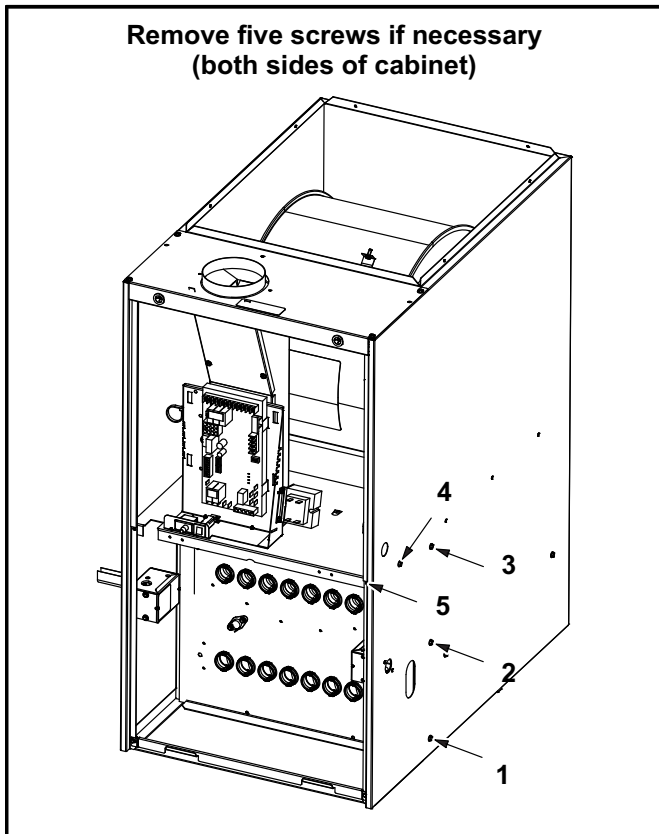

FIGURE 2
- 9 - Remove heat exchanger. It may be necessary to spread cabinet side to allow more room. If so, remove five screws from the left side or right side of cabinet. See figure 2.